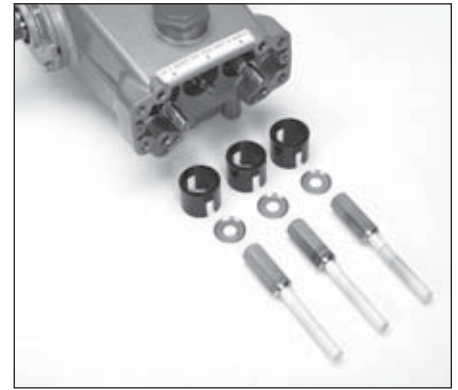

Figure 7
2. Remove four (4) M10 HSH screws from the pump crankcase. Grasp complete head assembly and carefully slide assembly over the plungers and away from crankcase.
4. Remove seal retainers from crankcase (See Figure 7).